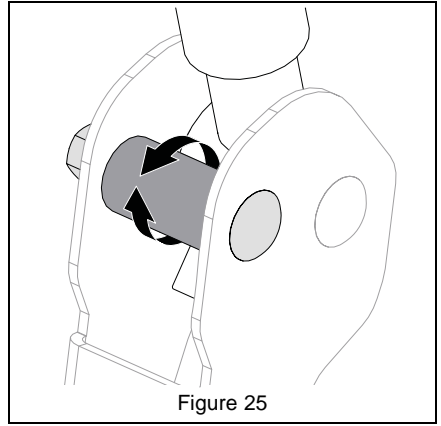

Figure 25
5. Turn eccentric spacer so levers are at the same height and have a 1.3 cm – 2.5 cm (1/2" – 1") gap between lever ends. See Figure 25.